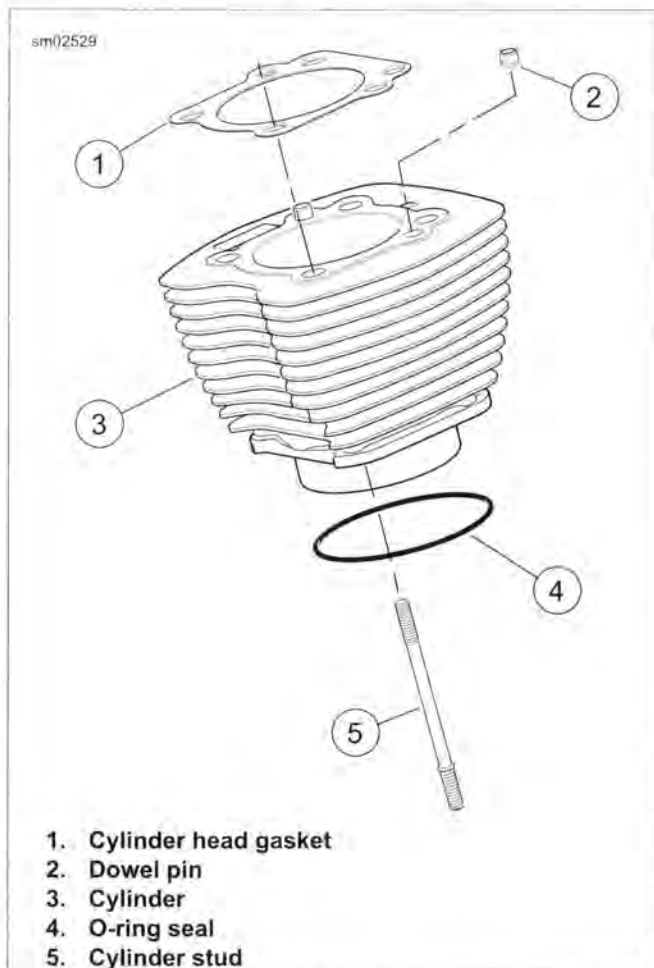

Figure 3-49. Cylinder Assembly
1. See Figure 3-49. Clean all remaining cylinder head gasket material from the cylinder (3).